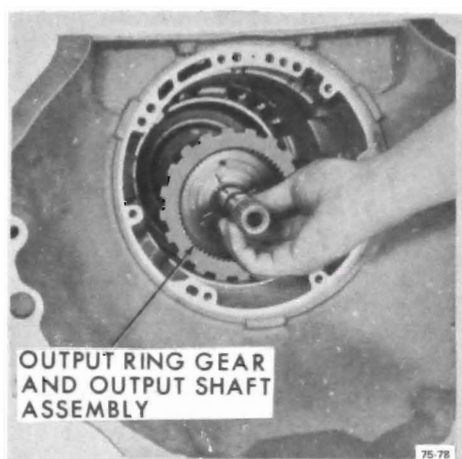

Figure 75-II5
a. Thread tool J-23062-3 on Drive Handle J-8092 and remove bushing. See Figure 75-II4A.